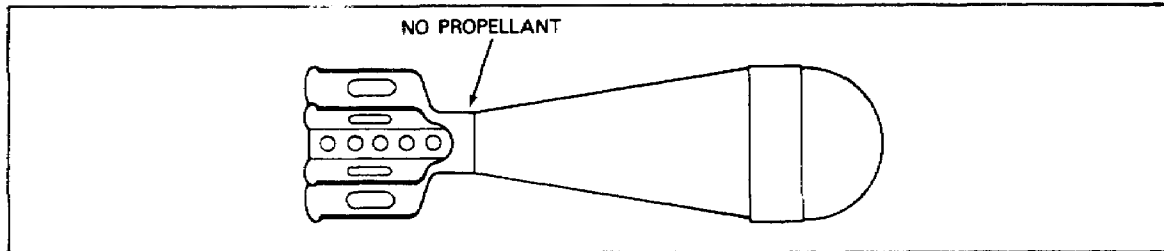

Figure 26. 60mm Training Mortar Cartridge.
**60mm Training Mortar Ammunition.** The 60mm training mortar cartridge is used to train personnel in loading and firing the mortar. The round is completely inert except for an ignition cartridge, and it is propelled using the ignition cartridge charge only. After firing, the round is recovered and fitted with a new ignition cartridge so it can be fired again. See Figure 26. This round is easily identified by its pear shape and the absence of propellant increments. Old rounds are black or blue with white markings, and new rounds are bronze with white markings.